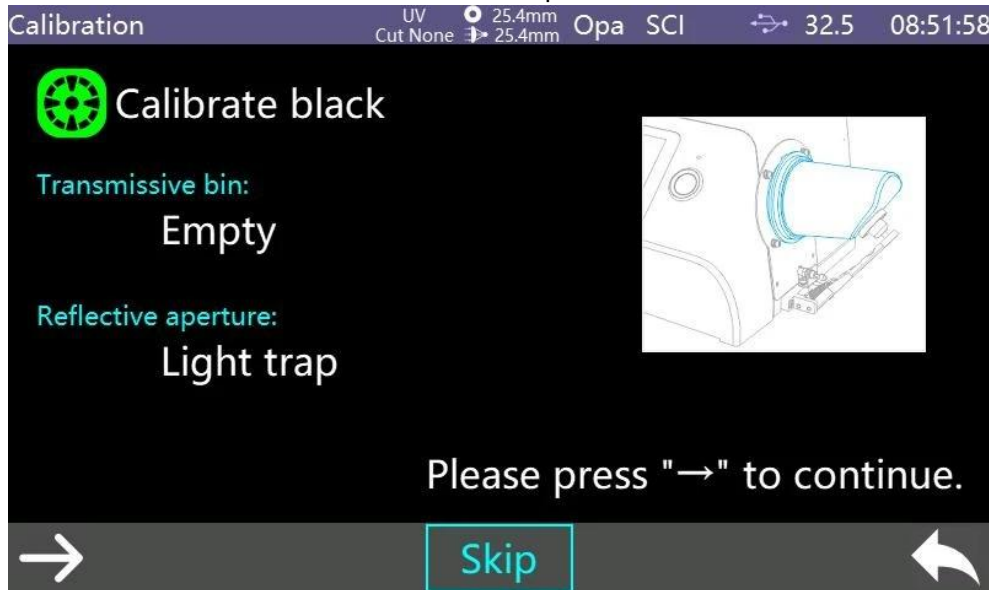

Figure 9
- 3, After finishing 100% calibration, enter figure 9 interface , place the black cavity according to prompt, and press test key to start calibration.as shown in Figure 9.